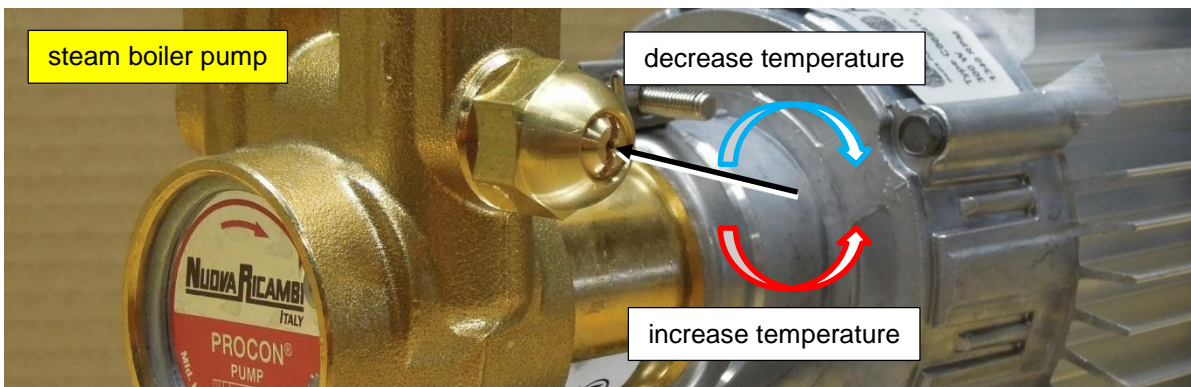

Figure 17. the steam boiler pump pressure is used to set the hot water temperature.
5. If the temperature is too low: decrease pump pressure of the steam/hot water boiler pump. If the temperature is too high: increase pump pressure (see Figure 17).